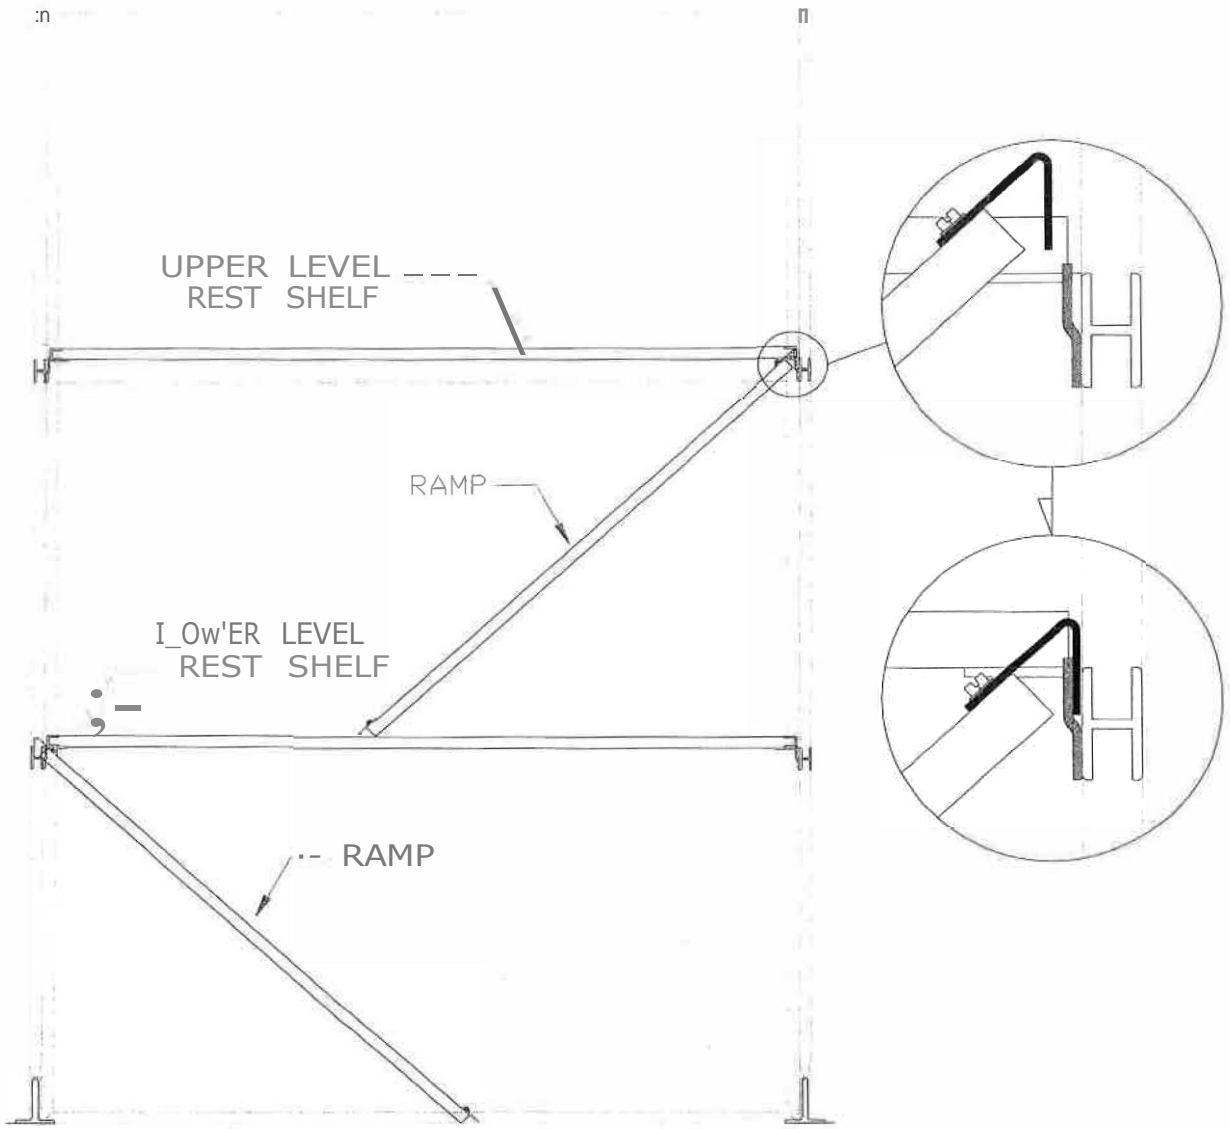

Figure 9
10. Place the ramps in position by sliding the top mounting angle on the ramp down on to the ramp support brackets. The side of the ramp should be against the front of the shelf. See figure 9.